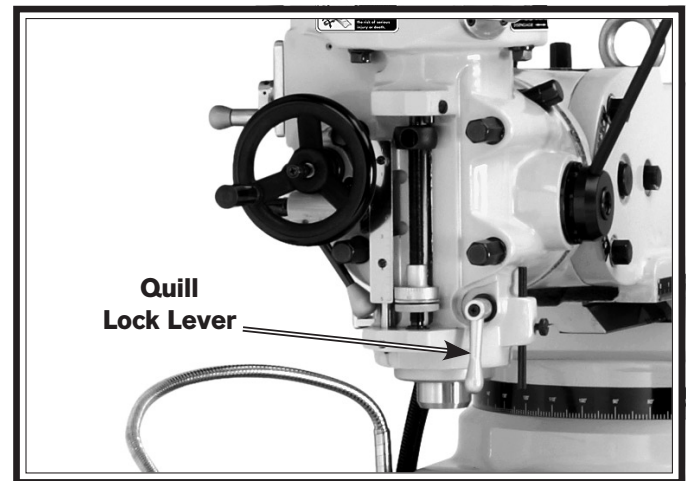

Figure 41. Location of the quill lock lever.
5. Make sure the quill lock lever is loose so that the quill can move easily (see **Figure 41**).